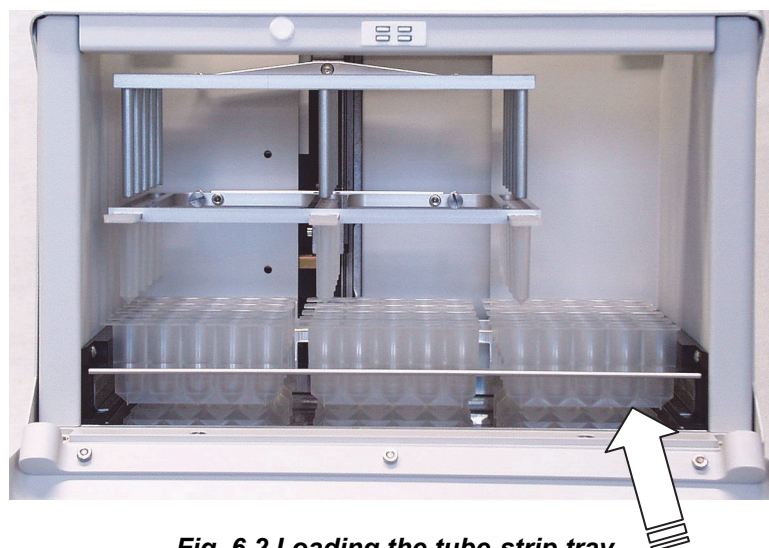

Fig. 6.2 Loading the tube-strip tray
- First of all slide the tube-strip tray out (Fig. 6.2).